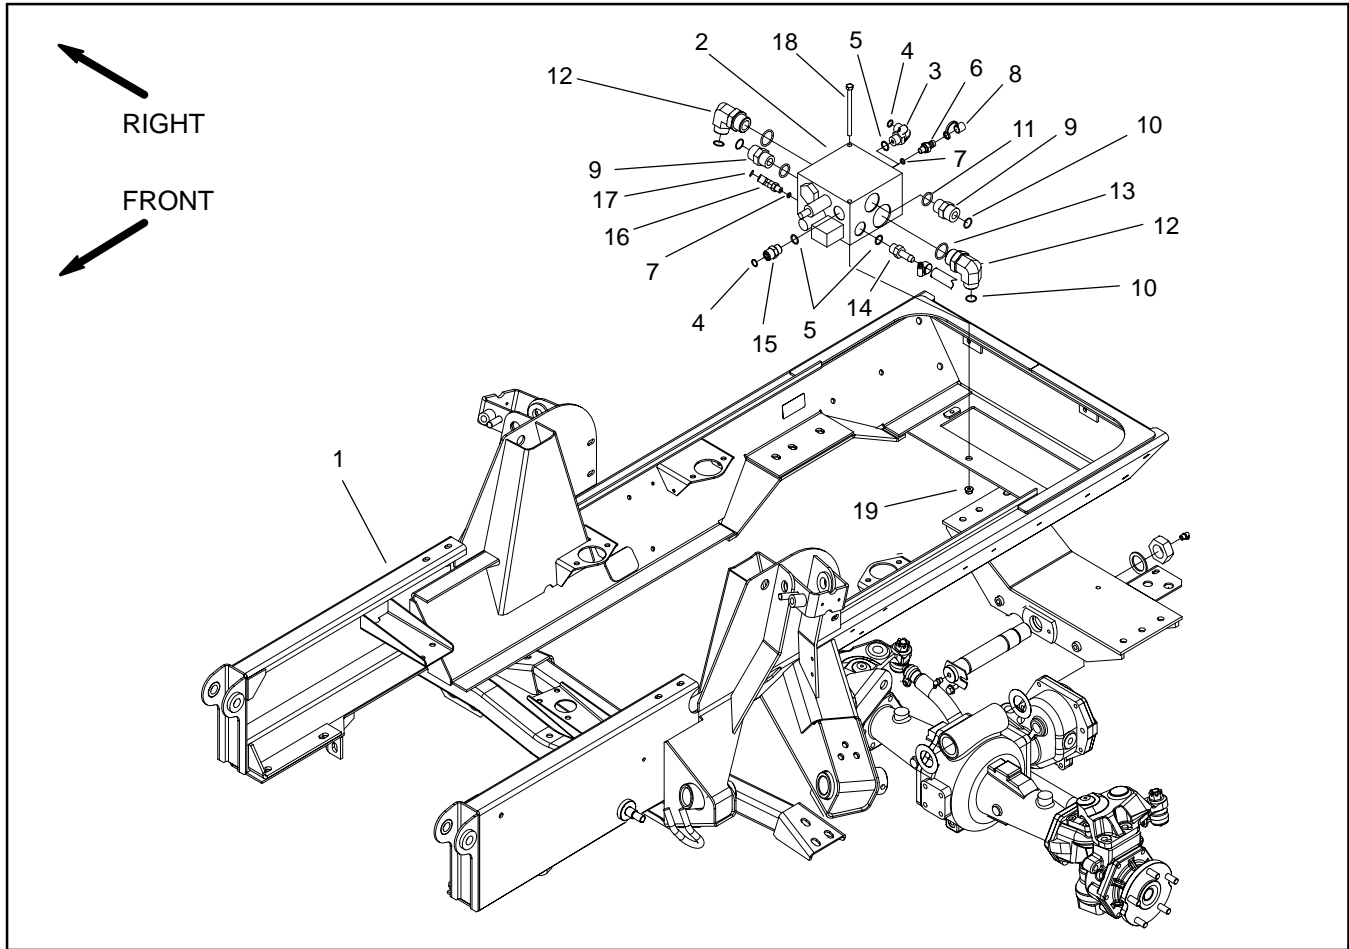

Figure 74
### Removal (Fig. 74)
5. Remove hydraulic manifold from the frame using Figure 74 as a guide.
### Installation (Fig. 74)
2. Install hydraulic manifold to the frame using Figure 74 as a guide.